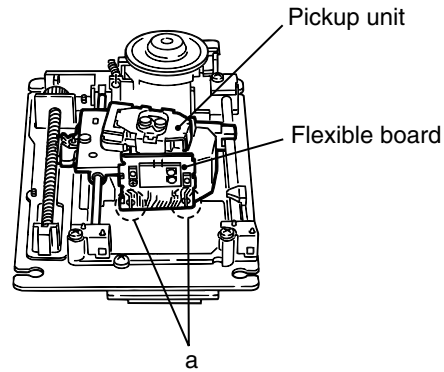

Fig.1
■ Removing the pickup (See Fig.1 to 5)